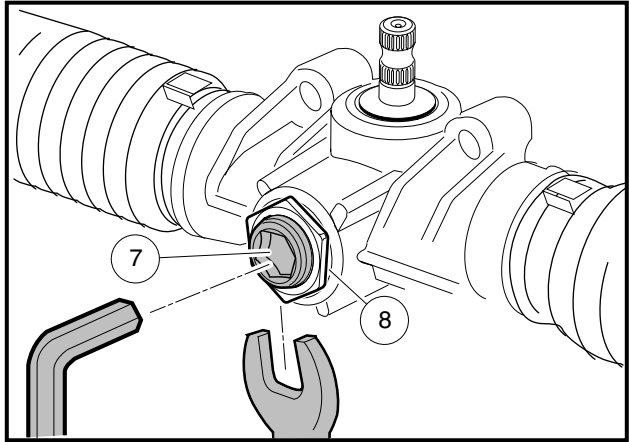
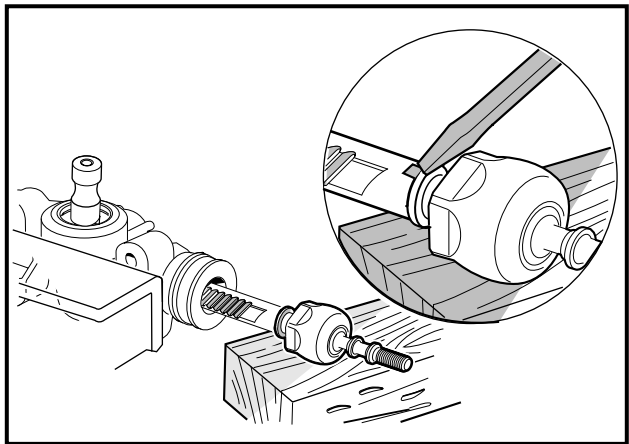

Figure 7-22 Rack and Pinion Adjustment
Figure 7-24 Install Ball Joint
7. Install the ball joints (9) onto the rack (2) by securing the rack in a vise using wood blocks between the rack and the jaws of the vise to protect the rack from damage. Tighten the ball joints to 60 ft-lb (81 N·m).
8. Tap a flange into the notch on the rack (**Figure 7-24, Page 7-12**).
9. Place a few drops of Loctite 222 to the threads of the screw (7).
10. Install the rack guide (5), pressure spring (6) and screw (7). The screw should be threaded-in until it bottoms out and then backed out 1/4 turn (**Figure 7-22, Page 7-12**).
13. If measured resistance is not 7 to 15 in-lb (.8 to 1.7 N·m), adjust the screw (7) until correct setting is achieved. Tighten the nut (8) to 28 ft-lb (38 N·m) (**Figure 7-22, Page 7-12**).
**NOTE:** When tightening the nut (8) make sure the screw (7) does not change adjustment (**Figure 7-22, Page 7-12**).